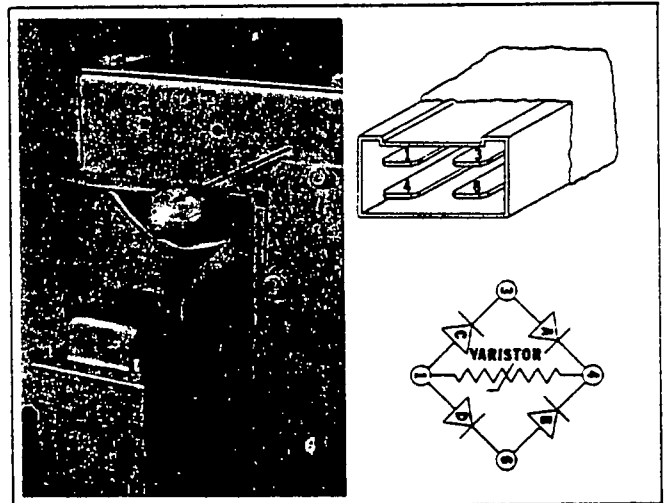

Figure 40
A.) Remove the rectifier by pulling it out of its receptacle and install a "shop" rectifier. Depending on the particular model, the rectifier can be found either on the front of the unit next to the reactor, on the left side panel directly behind the spark plug cover or under the left side of the top shroud as shown in figure 40. Start the XP and check for AC voltage. If you do not have a "shop" rectifier or wish to verify the condition of one you suspect is defective, use the following procedure: Set your ohmmeter on a low resistance scale (Rx1) and check for continuity between pins 1 and 4. You should get a reading in only one (1) direction. Touching the test leads to pins 3 and 6, you should NOT get a reading in EITHER direction.